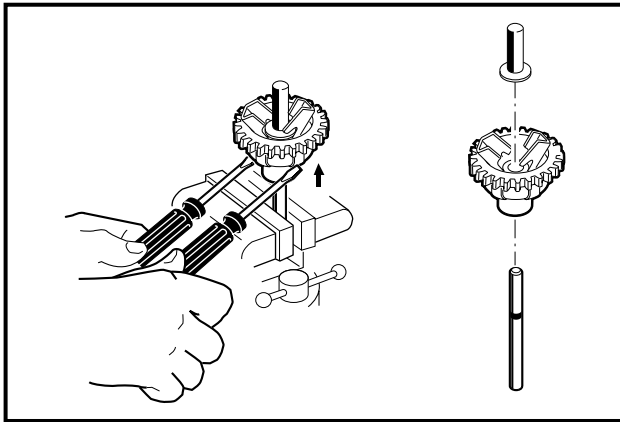

Figure 5-13 Pry Gear from Shaft
1. Secure the governor gear assembly in a vise. Wrap shaft in a cloth to prevent damage (**Figure 5-13, Page 5-9**).